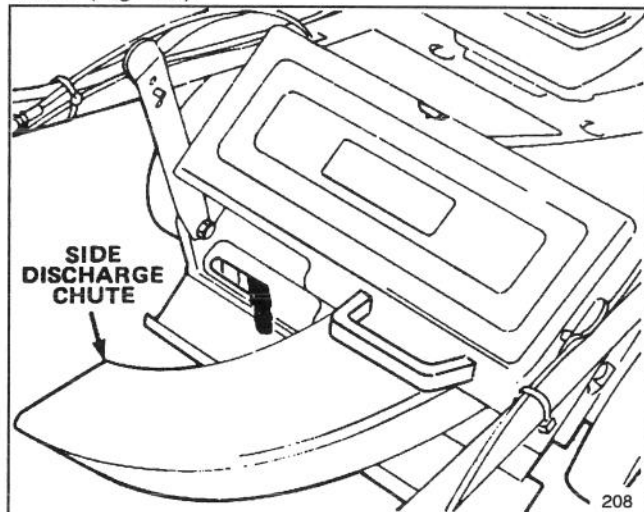

Figure 33
1. Side Discharge Kit, Model No. 59112—Installs in seconds. Rear mounted in place of the grass bag. Disperses clippings while trimming on both sides (Fig. 33).